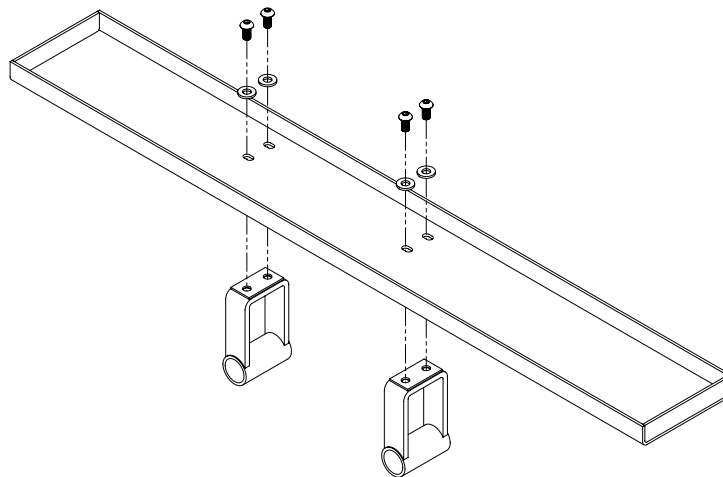

Figure 2 - Assembly of Stopping Plate to Wheel Track
2. Loosely assemble the Attachment Brackets to the Wheel Track with the Socket Head Screws (see figure 2).